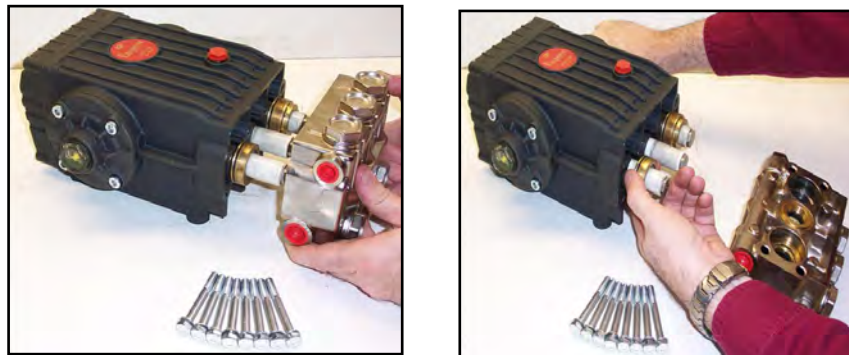

Figure 7. Seal Assemblies May Come Off with Manifold
12. The seal assemblies may come off with the manifold (see Figure 7)